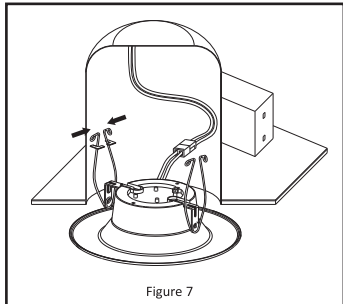
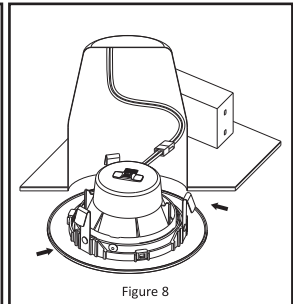

Figure 7
Figure 8
- For 6" fixture, squeeze torsion springs together as shown in **Figure 7**. Install into the torsion spring brackets inside the recessed can. For 4" fixture, press the 3 clips towards the fixture and insert into the can as shown in **Figure 8**. Carefully route the wires into the can and push the fixture up to seat flush along the ceiling.